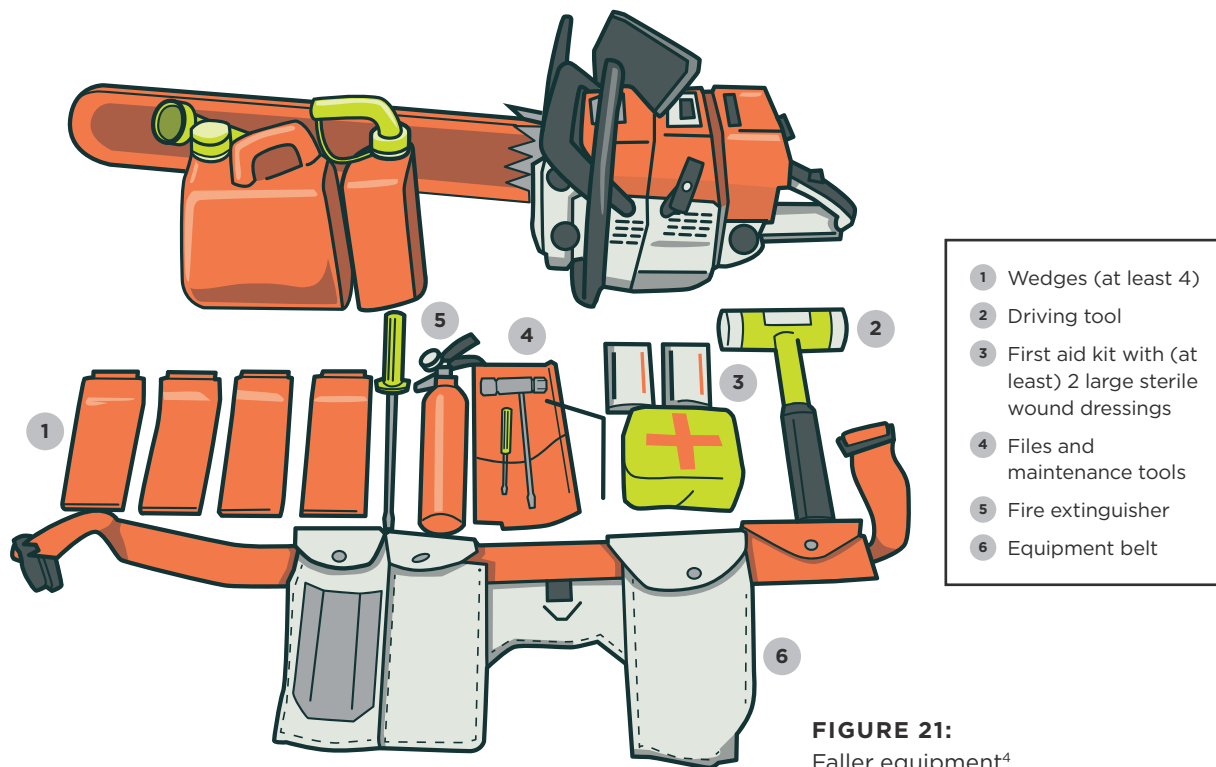

FIGURE 21:
21.4.5 Make sure fallers have the right equipment for the job, including the minimum number of wedges to be carried (Figure 21).
- 21.9.3 If a felled tree falls into or brushes past another, the danger zone extends some distance behind the felled tree as the top or limb could rebound backwards. This means the recommended escape route (Figure 21) could be in the danger zone.